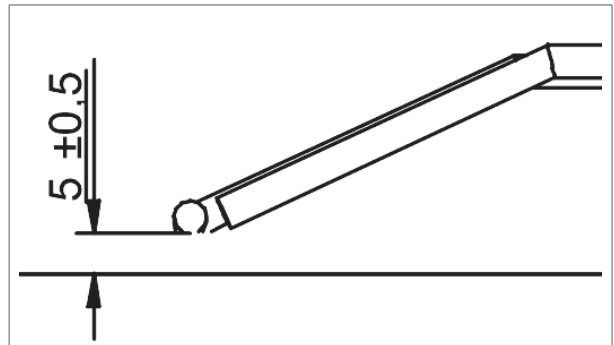

Figure 23 - Distance between the electrode and the burner
- a. The distance between the electrode and the burner should be (\pm) mm (figure 23).